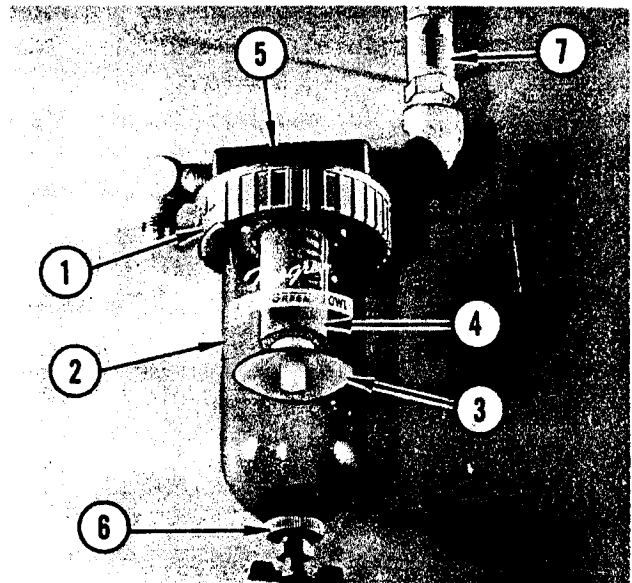

FIGURE 29. AIR LINE FILTER
Refer to Figure 29. Unscrew clamping ring (1) to remove bowl (2). Unscrew and remove baffle (3) to remove filter element (4) from body (5). Remove drain cock (6) from bowl by unscrewing it from insert. Item (7) is check valve located in line between filter and reservoir. This check valve prevents oil or air in reservoir from bleeding back into engine air box.